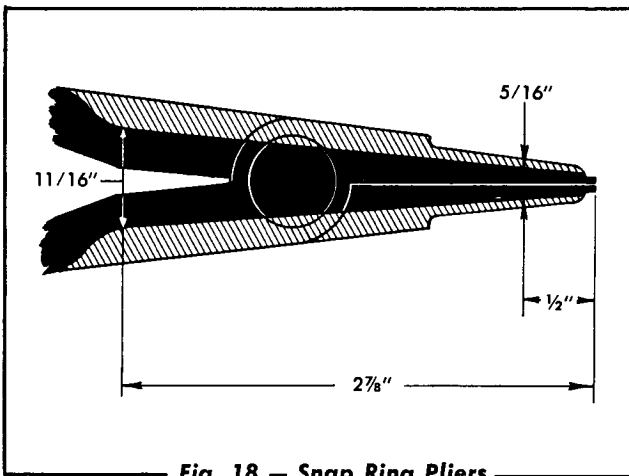

Fig. 18 - Snap Ring Pliers
- b. For the removal of the snap rings, rework Truarc #21 pliers or Tool "C" to the dimensions indicated in Fig. 18 by grinding off uniformly each side of pliers. Round sharp corners smooth with fine cut file and emery cloth.